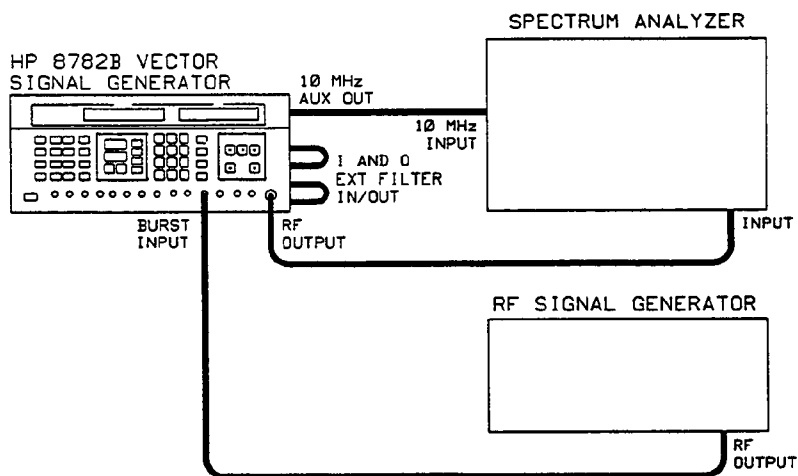

Figure 5-8. Pulse (Burst) Modulation Test Setup
1. Connect the equipment as shown in Figure 5-8. Be sure to connect the two jumper cables across the Vector Signal Generator's rear panel external filter in/out connectors. Also on the rear panel, set the TIME BASE switch to EXT. It is not necessary to recalibrate at this time.